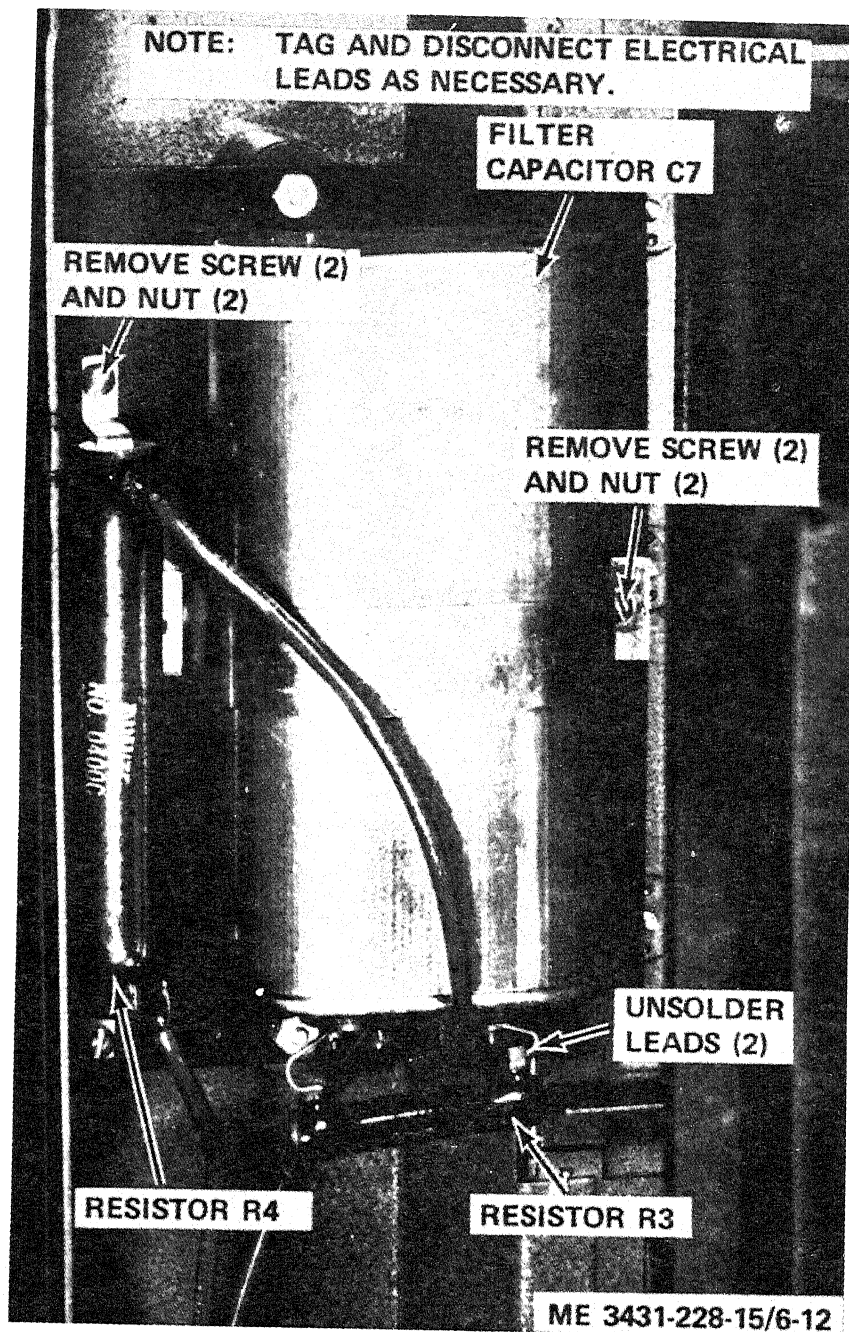

Figure 6-12. Filter capacitor C7 and resistor R3 and R4, removal and installation.
- (1) Remove the top and housing from the welding machine (para 3-20).
- (2) Refer to figure 6-12 and remove the filter
- (1) Refer to figure 6-12 and install filter capacitor C7 and resistors R3 and R4.
- (2) Install the top and housing on the welding machine (para 3-20).